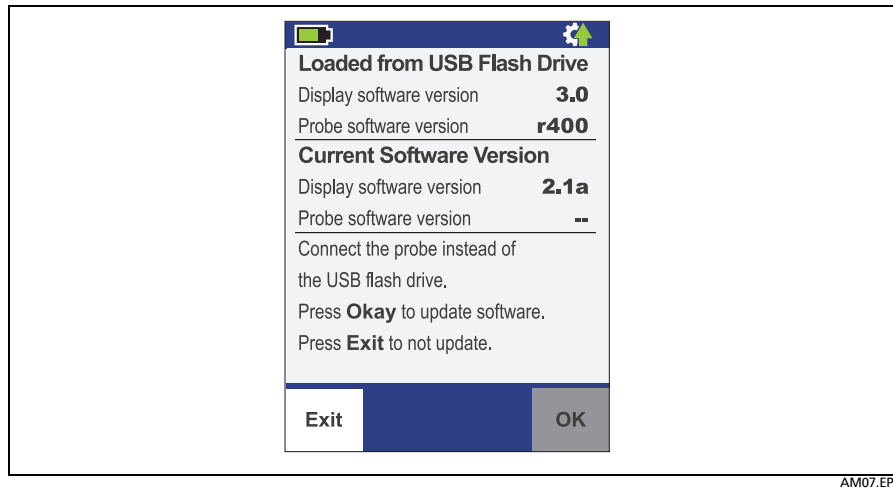

Figure 7. Software Update Screen with the USB Drive Connected
- ① Download the upgrade file from the Fluke Networks website to the root folder of a USB drive. If the file is a .zip file, unzip the files before you put them on the USB drive.
- ② Connect the drive to the display. The software update icon shows in the status bar, and the display imports the upgrade file. The screen shows the software versions loaded from the USB flash drive (Figure 7).